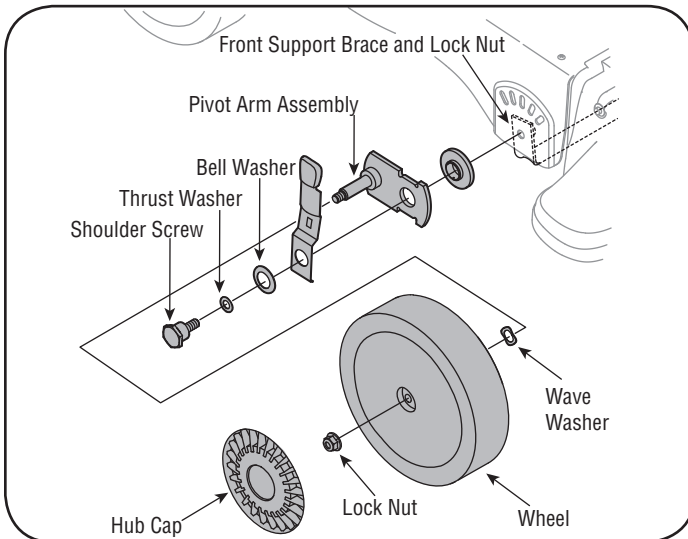

Figure 23
1. **Wheels-** Place a few drops of SAE 30 oil on each shoulder screw once a season. Refer to Figure 23 on page 18.
4. Remove the front hubcaps, flange lock nuts, front wheels, and wave washers that attach to the pivot arm assemblies. See Figure 23.